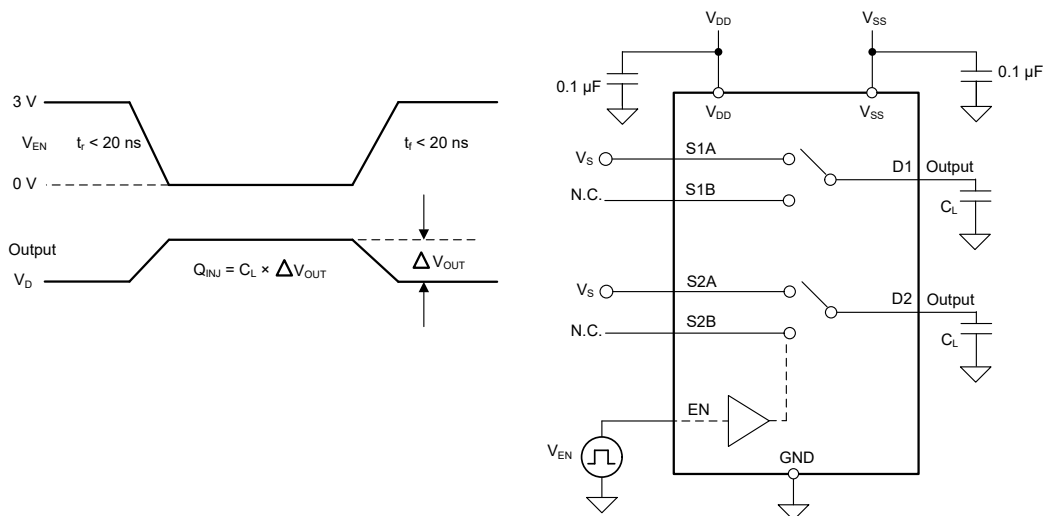

图 6-9. Charge-Injection Measurement Setup
The TMUX6236 has a transmission-gate topology. Any mismatch in capacitance between the NMOS and PMOS transistors results in a charge injected into the drain or source during the falling or rising edge of the gate signal. The amount of charge injected into the source or drain of the device is known as charge injection, and is denoted by the symbol Q_{INJ} . 图 6-9 shows the setup used to measure charge injection from source (S_x) to drain (D).